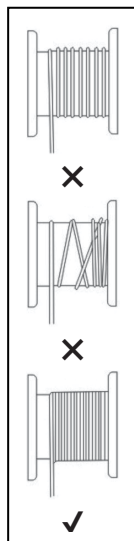

Fig. 2
- Wind the steel rope as shown in figure 2.